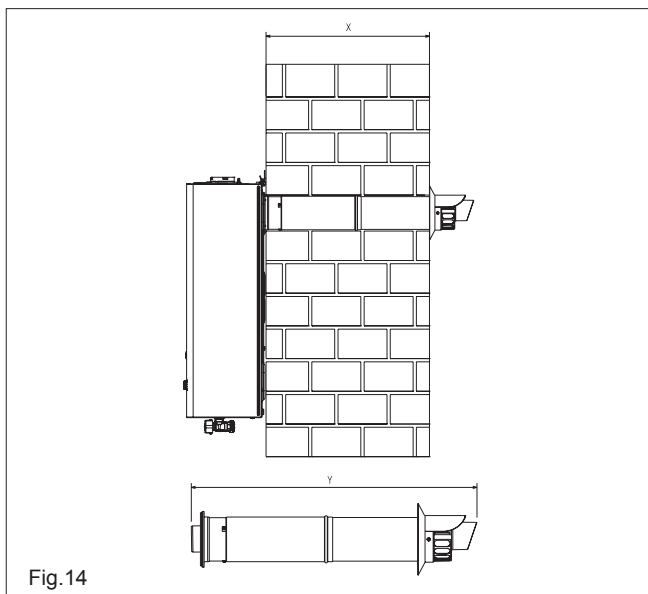

Fig. 14
4.5.1.2 FITTING THE REAR FLUE (fig. 14) (rear flue outlet only)